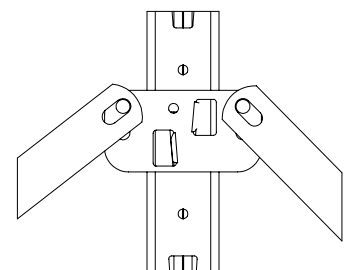

FIGURE 5
4. Attach sway braces to post connectors. Be sure to attach brace as per Fig. 5. Use 1/4-20x1/2 truss head bolts and keps nuts.